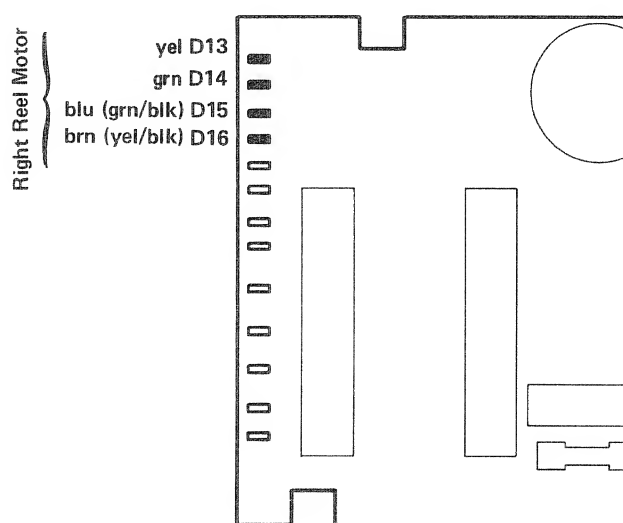
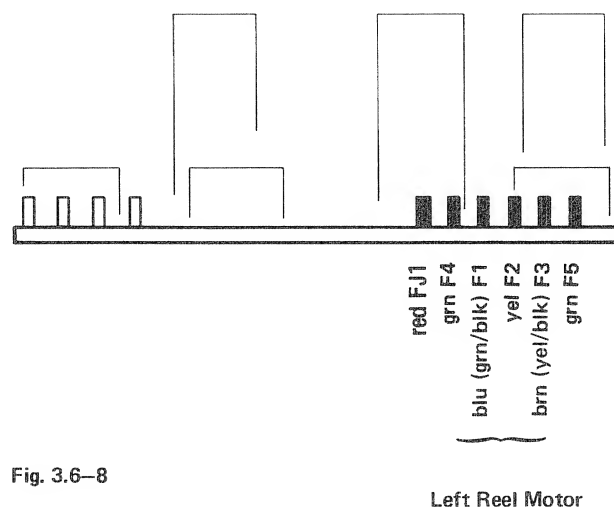

Fig. 3.6-7
Fig. 3.6-8
- Unplug motor cable connectors; right reel motor, regulator card (fig. 3.6-7); left reel motor, control card (fig. 3.6-8).